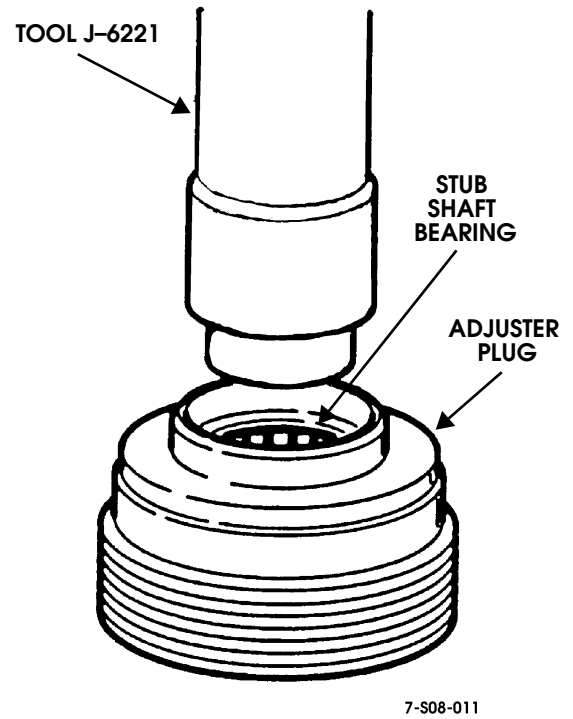

Figure 8-38: Stub Shaft Bearing Removal
- 6. Remove dust seal and oil seal (Figure 8-38). Use tool J-6221 to remove seals.
- 7. Remove stub shaft bearing with tool J-6221 (Figure 8-38).